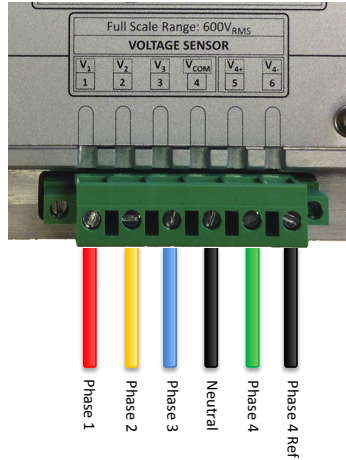

Figure 26: Vecto II 4-wire star connection
- *Connect Phase 1,2 and 3 to Voltage Inputs 1-3 as shown in Figure 26 below.*